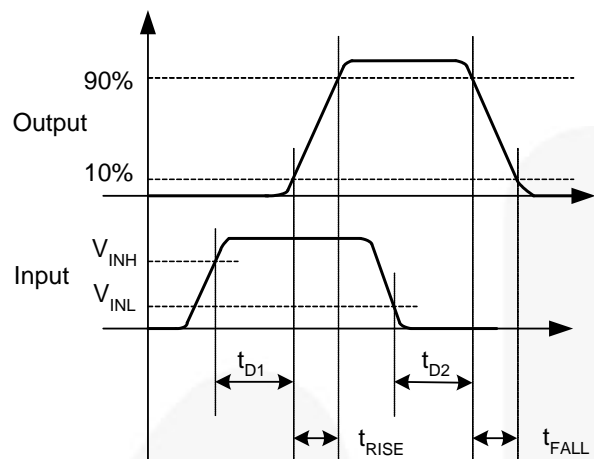
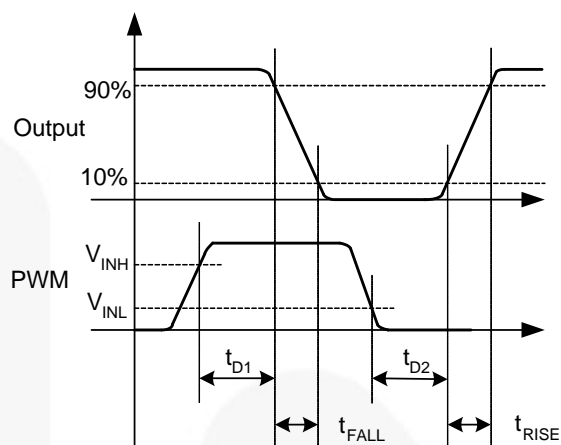

Figure 6. IN Pin
Figure 7. DIM Pin
7. See *Timing Diagrams of Figure 6 and Figure 7*.